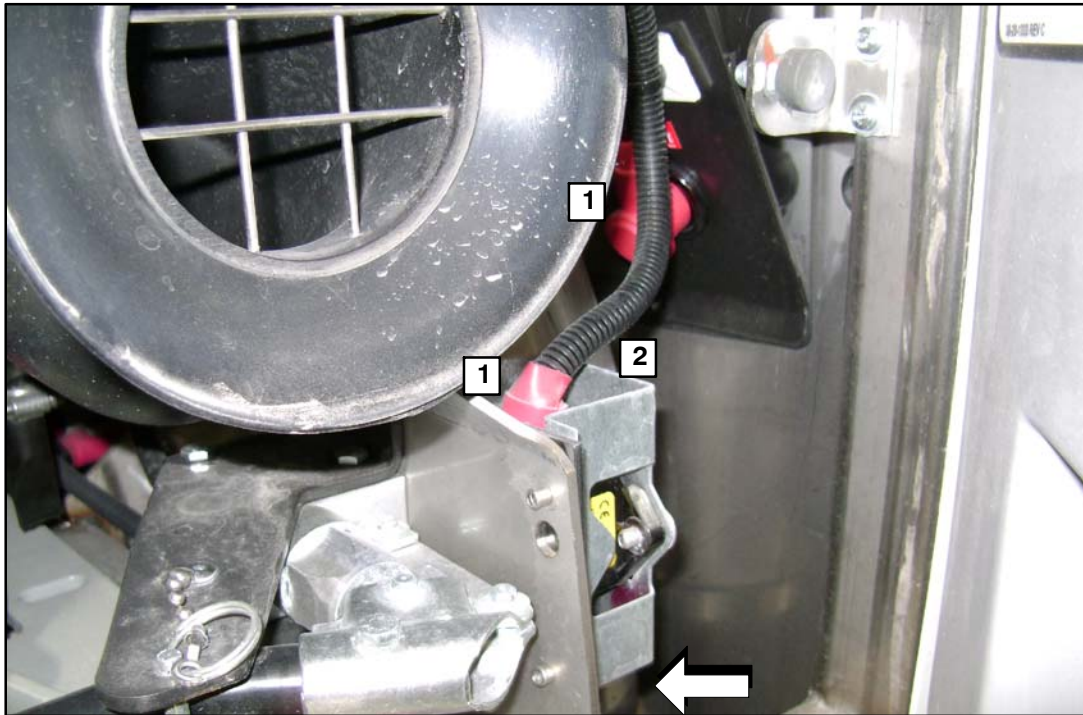

Figure 6. Reference photo of rear, side service compartment
| ITEM | FIGURE 6 DESCRIPTION |
11. In the rear, side service compartment, remove the red protective boot from the three (3) wheelchair lift electrical terminals and apply high tack sealant to the terminals (refer to Figure 6).
12. Install the edge molding, p/n 24-51-0050, on the upper bracket edge (below the loom routing) as shown in Figure 6.